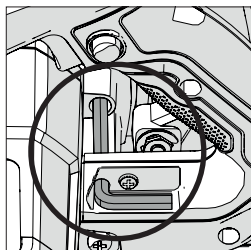

Fig. 1
- Locate the supplied Blade Change Hex Key which is housed in the onboard storage facility (similarly positioned on all machines). (**Fig. 1**)